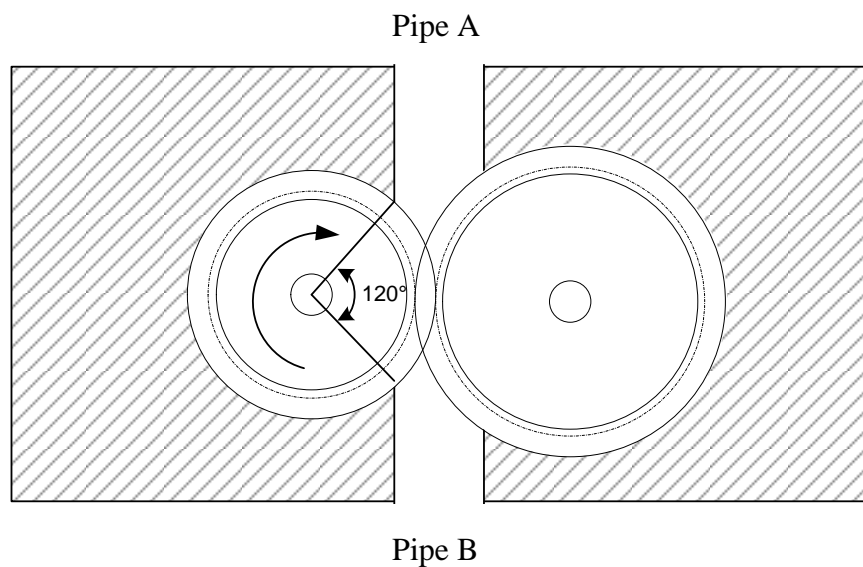

Fig. 3.2
In the following the pump in Fig. 3.2 is given. The pressure in the pressure pipe is 100 bar higher than in the suction pipe. The width of the displacement elements is 2 mm, in the driving wheel exist 10 displacement elements and in the drifted wheel 20. The module of the displacement elements is $m = 8$ mm. The bulk-modulus of the oil is 16000 bar.
- 3.5 Which kind of design is the pump in Fig. 3.2? (0.5 Points)
- 3.7 Draw in Fig. 3.2 the flow direction of the delivered flow rate and label it with the amount of the delivered flow rate per turn of the driving wheel. Label both pipes with their corresponding appellations. (If you were not able to solve task 3.6, indicate the flow rate in percent). (1 Point)